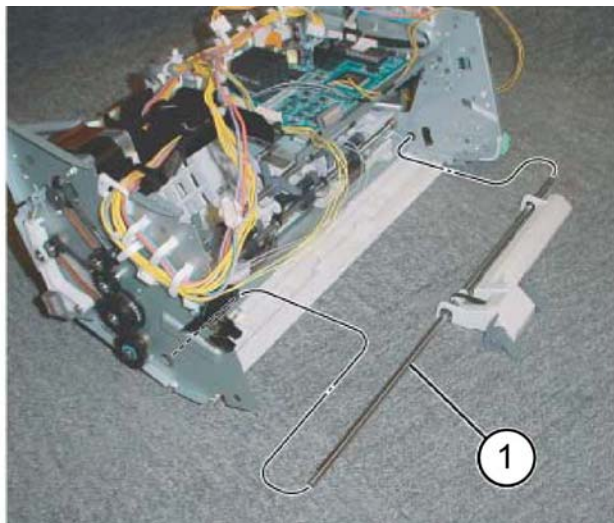

Figure 5 Paddle link assembly removal
7. Remove the paddle link assembly (1), Figure 5 :